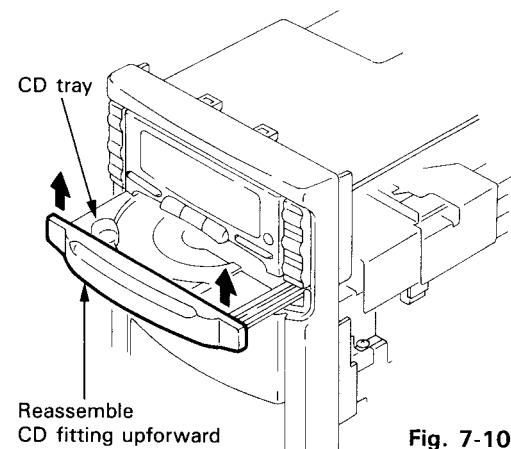

Fig. 7-10
(Refer to Figs. 7-10 ~ 7-12)**
1. After turning on the power supply, press the CD tray [OPEN/CLOSE] button and draw out the CD tray. Next, pull out the power cord from the receptacle, and remove the CD fitting while pushing it in the direction of arrow. Subsequent to plug the power cord into the receptacle, press the CD tray [OPEN/CLOSE] button and return the CD tray. Then, turn off the power supply and pull out the power cord from the receptacle (Refer to Fig. 7-10).